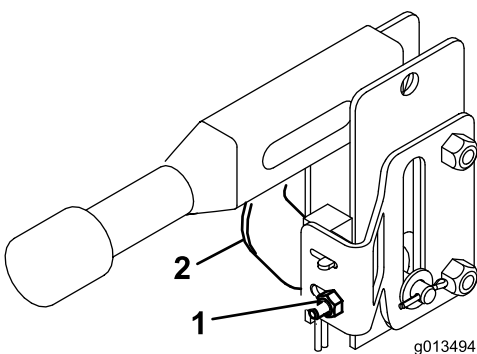

Figure 25
5. Loosen the (2) nuts securing brake interlock switch to brake sensor bracket (Figure 25).
6. Adjust the brake switch until the air gap between the switch and the parking brake lever link is .060 inches \pm .030. (Figure 25). Tighten the switch mounting nuts.